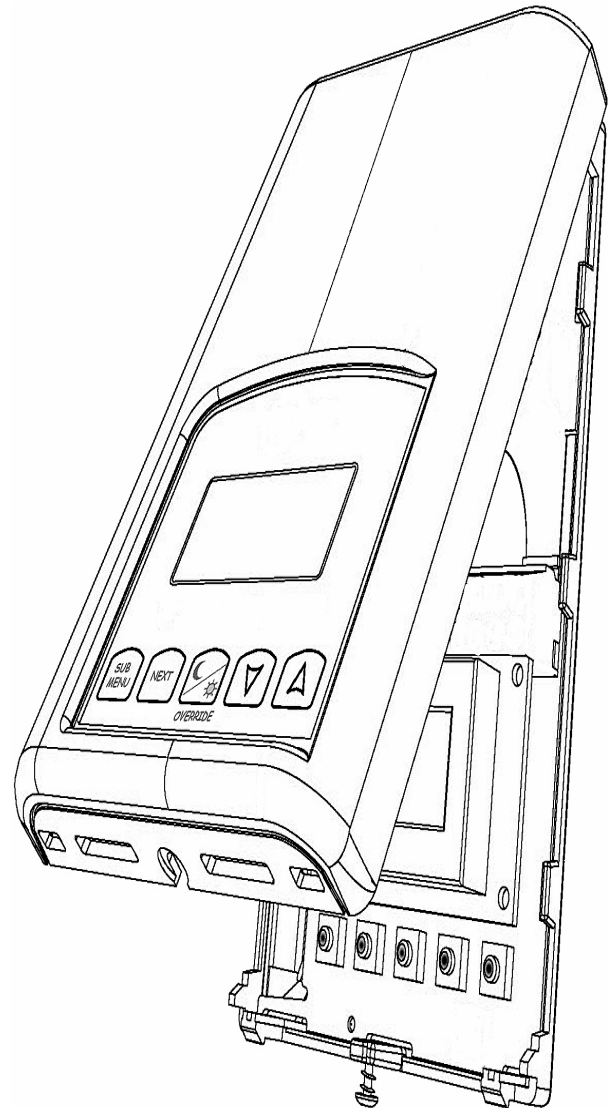

Figure 3: LN-VSTAT and LN-PSTAT Sensors Security Screw
13. Install the security screw (Figure 3).